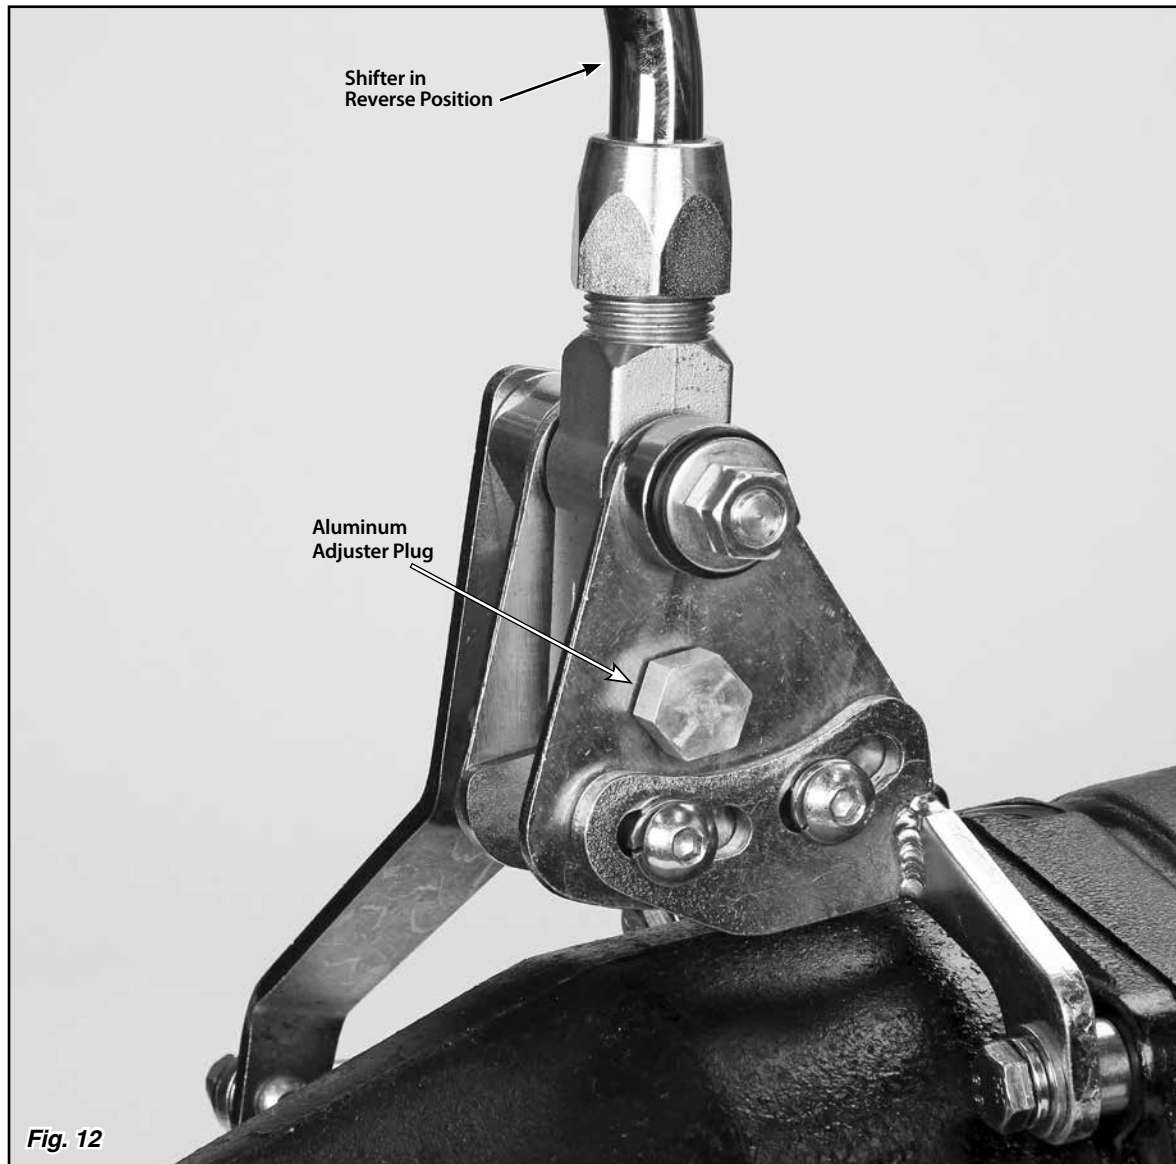

Fig. 12
Step 16: Put the Shifter into the Reverse position. Reposition the switch plate so that the hole in the switch plate lines up with the center groove in the shifter body. **Fig. 11** Screw the provided aluminum adjuster plug into the neutral safety switch opening. Wiggling the switch plate slightly forward and back while you are screwing the aluminum adjuster plug in will help get the shifter body centered on the adjuster plug. **Fig. 12**
- If there are (2) connections for a neutral safety switch, run a #12 (or heavier) stranded wire from these terminals in your fuse panel to the (2) terminals on the neutral safety switch. That completes the neutral safety switch wiring.